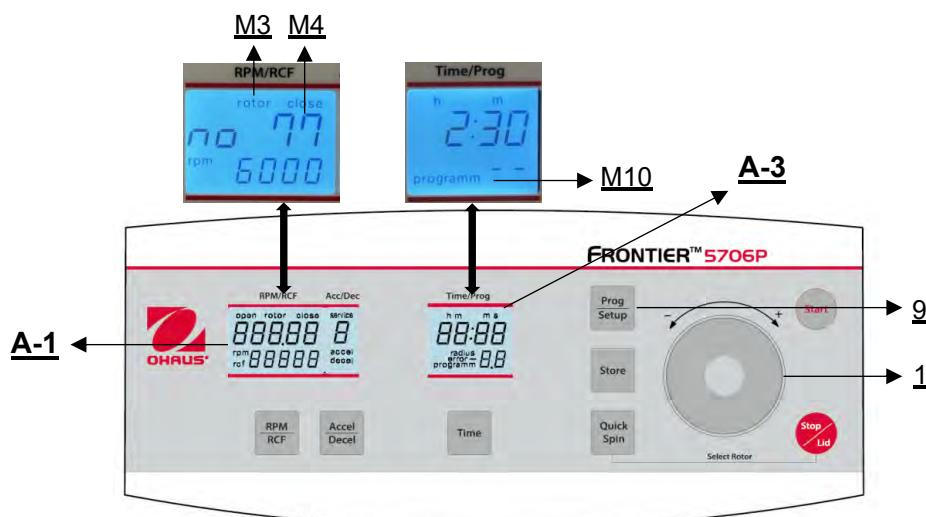

Figure. 24
To recall stored programs, press the key **"Prog/Setup"** (9) (see **Figure 24**) while the lid is already closed. Inside the display **"Time/Prog"** (A-3), **"program--"** (M10) appears. The desired program number can be pre-selected with the touch wheel (1).
To leave the program mode just press the key "**Prog/Setup**" (9) (see Figure 24). Then inside the display "**Time/Prog**" (A-1) the word "**programm**" (M10) appears. Set the display to "**programm--**" (M10) with the touch wheel (1).